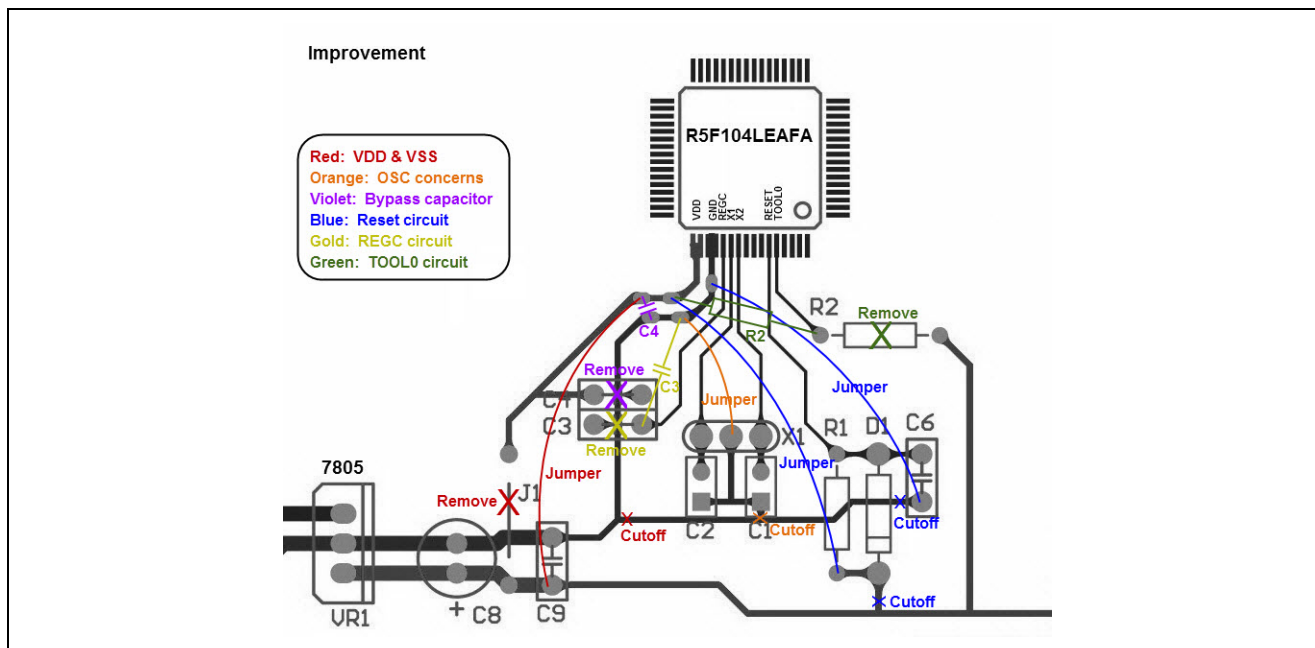

Figure 5.1 Improving the Non-recommended Board
- VDD and VSS: Remove J1 and connect the MCU VDD to C9 with a jumper line to modify the VDD wiring connection. Cutoff the VSS wiring of oscillator circuit and reset circuit to modify the VSS connection. Refer to the red section in Figure 5.1.
- Oscillator concerns: Cutoff the original wiring which connects the VSS of oscillator circuit to the MCU VSS pin. Connect them with a jumper to shorten the VSS wiring of the oscillator circuit. Refer to the orange section in the Figure 5.1.
- Bypass capacitor: Move C4 close to the MCU. Refer to the violet section in the Figure 5.1.
- Reset circuit: Cutoff the original wiring of reset circuit which connects to the VDD and VSS. Connect these components (R1, D1, C6) to the MCU VDD and VSS with jumper lines. Refer to the blue section in the Figure 5.1.
- REGC circuit: Move C3 close to the MCU. Refer to the gold section in the Figure 5.1.
- TOOL0 circuit: Move R2 close to the MCU. Refer to the green section in the Figure 5.1.